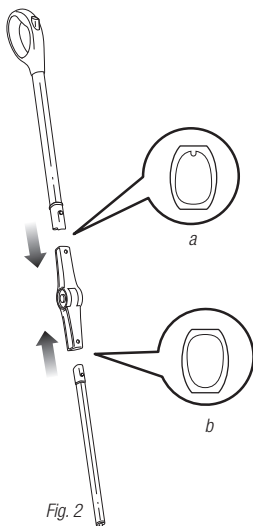

Fig. 2
- 2 Pull back on the handle and press lightly on the body of the unit with your foot to engage the steering. (Fig. 2)
- 2** Slide the upper pole (the tube with the handle) into the end of the Shark® Backsaver™ joint that has a small notch in it (a). Then slide the lower pole into the other end of the joint (b). Push it in until it clicks into place. (Fig. 2)